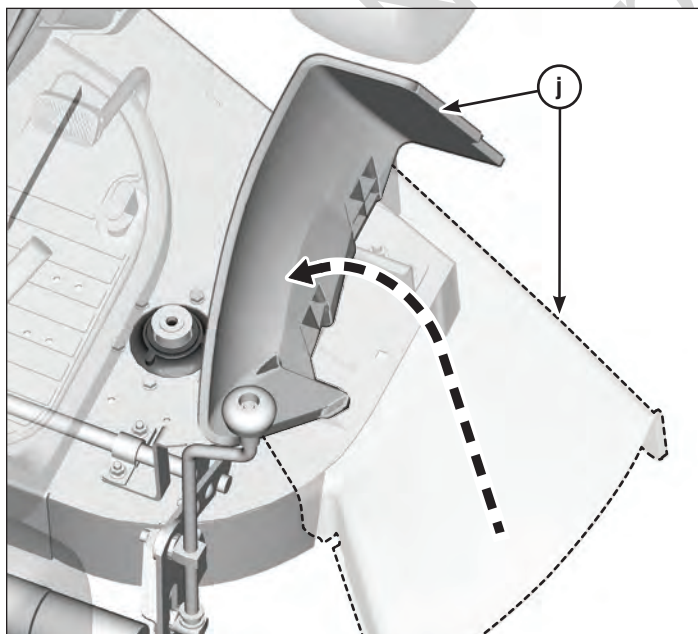

Figure 5
- Rotate deflector (j, Figure 5) to upright position.
NOTE: Deflector needs to be rotated to the upright position. See Figure 5.